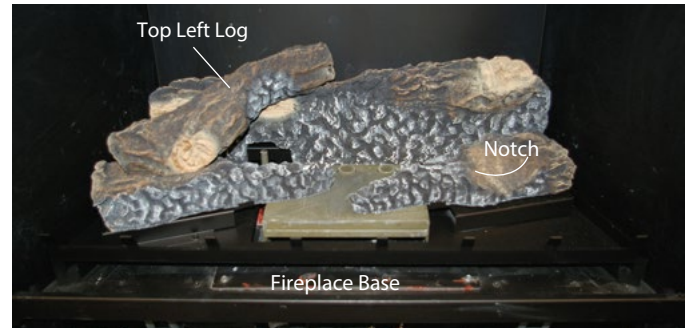

Figure 8d. Top Left log placement.
**Step 4.** Place the top left log as shown in **figure 8d**. A flat area is provided on the front left log, and a notch in the Rear bottom log, as shown in **figure 27c**. Install the glass door. If the flame does not appear satisfactory, double-check the air inlet and exhaust outlet pipe to ensure that they are unobstructed.